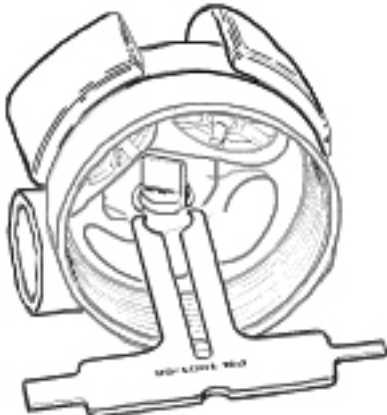

Figure 23 - Removal of anti-venturi vane
17. Stand the box bottom upside down with the mouthpiece boss facing forward so that the circlip (16) which holds the anti-venturi vane (20) secure is clearly visible. If necessary, gently turn the circlip with a small probe until both ends are facing toward the open side of the box bottom.
18. While holding the box bottom secure, place the tines of the Micra pre-adjustment tool (PN 100168) - or two medium blade screwdrivers if this specialty tool is not available - squarely against the ends of the circlip (see Figure 23). Gently press the circlip off the anti-venturi vane, and set it aside.